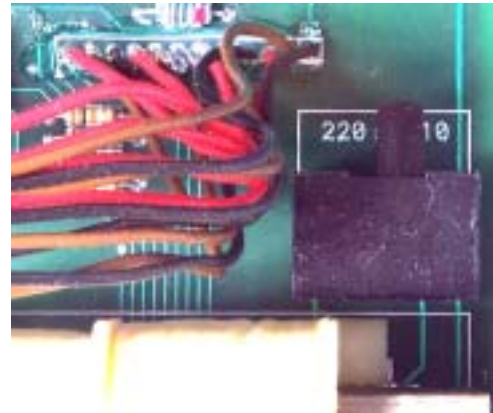

Figure 2.1
The Model 400 Power Supply normally operates on either 115 or 230VAC. It can be switched between these two supplies by the black switch next to the transformer on the PC board, front left corner (see Figure 2.1). Access the switch by removing two top screws in the rear panel and sliding the top cover aft. The 110 (115) and 220 (230) VAC positions are marked on the PCB. Units will be shipped for the voltage specified in the order.